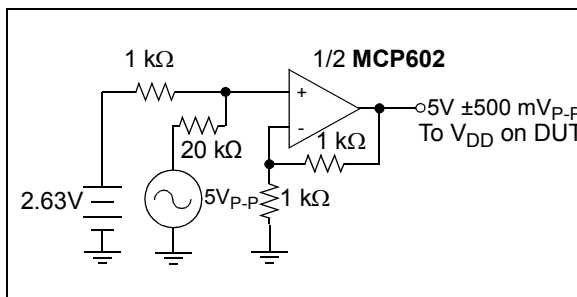

FIGURE 1-4: Power Supply Sensitivity Test Circuit (PSRR).
Note 4: V_{DD} = 5V DC ±500 mV_{P-P} @ 1 kHz, see test circuit Figure 1-4.
4: $V_{DD} = 5V$ DC $\pm 500 \text{ mV}_{P-P}$ @ 1 kHz, see test circuit Figure 1-4.
- 4: $V_{DD} = 5V$ DC ± 500 mV_{P-P} @ 1 kHz, see test circuit Figure 1-4.